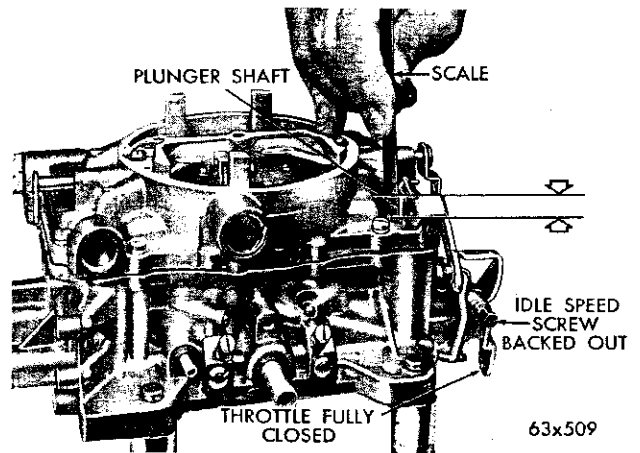

Fig. 52—Measuring the Accelerator Pump Travel
(1) Move the choke valve to wide open position, to release the fast idle cam. Back off the idle speed adjusting screw, (curb idle) until the throttle valves are seated in the bores.
(2) Measure the distance from the top of the air horn to the top of the plunger shaft, using a "T" scale as shown in Figure 52. This distance should be $\frac{7}{16}$ inch.
(3) If an adjustment is necessary, bend the throttle